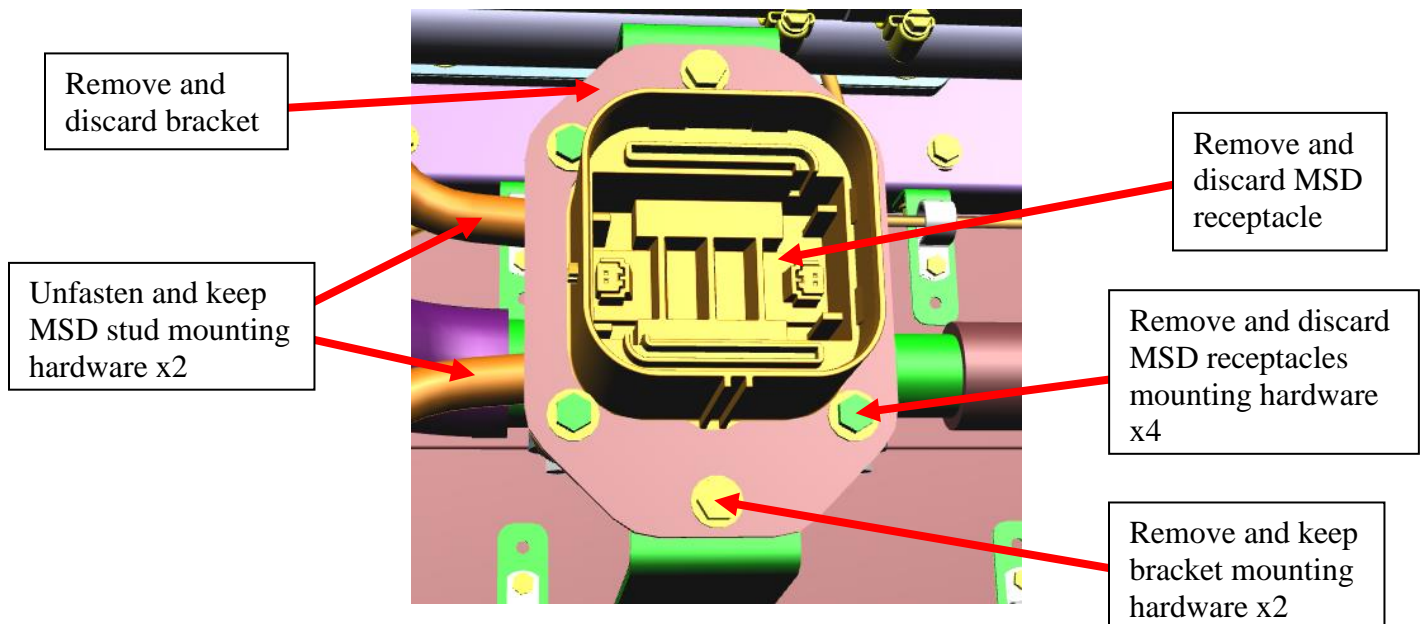

Figure 22: Rooftop ESS locations
3.6 Remove and discard rooftop MSD receptacles and brackets x5. See figure 22.